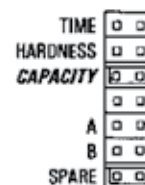

Figure 9
Move the jumper to the set of pins next to the word CAPACITY (Figure 9). Press the black TIME SET button until the correct capacity value is displayed. The capacity range is 1 to 99 kilograins. Refer to the Suggested Salt Dial Settings table (1).